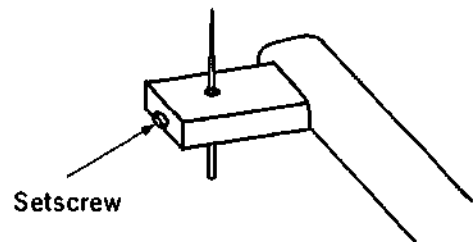

Figure 10-13
1. Remove the set screw (Figure 10-13).